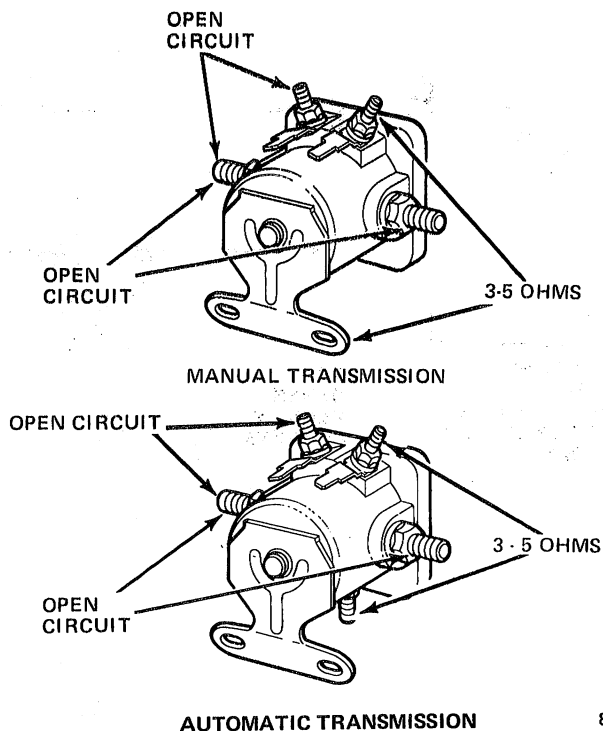

Fig. 1F-13 Ohmmeter Test of Starter Motor Solenoid
(1) Disconnect S-terminal wire from solenoid.
(2) Connect ohmmeter test probes (fig. 1F-13) to S-terminal and mounting bracket (manual transmission only) or ground terminal (automatic transmission only).
(3) If solenoid fails test, replace solenoid.
greater than in the S-terminal-to-mounting bracket test (fig. 1F-13), the solenoid has a poor ground.